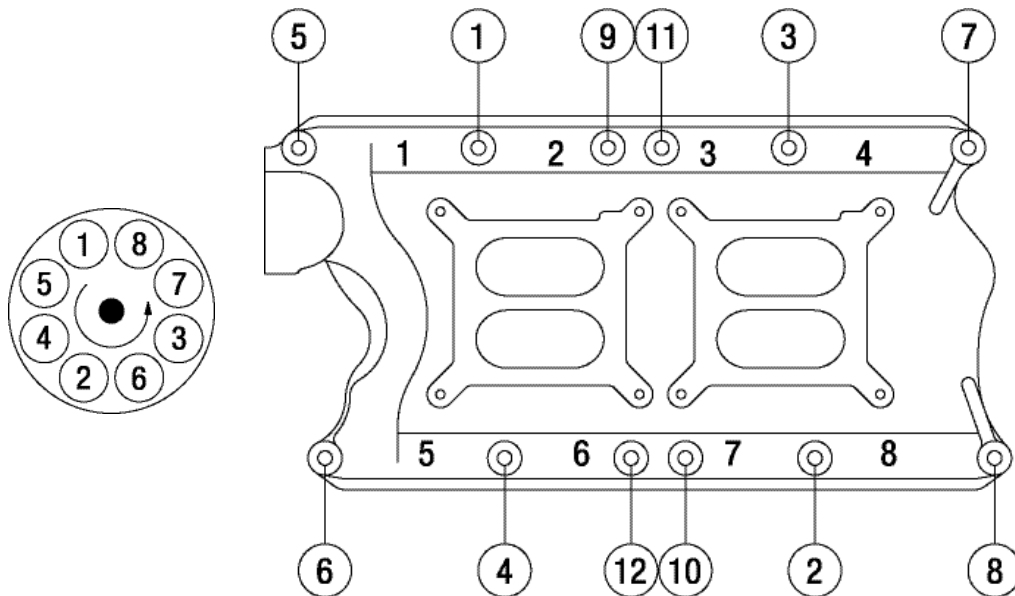

Figure 2 - Intake Manifold Tightening Sequence
5. Install the intake manifold and hold-down bolts. On early model heads, there is no support underneath manifold bolts 5, 6, 7 and 8. Hand tighten these ONLY, using a 6" box end wrench being careful not to damage the manifold. Torque the remaining manifold bolts in two steps by the sequence shown in **Figure 2** to 18-20 ft/lbs.
6. See **Figure 2** for Firing Order and Cylinder Numbering.